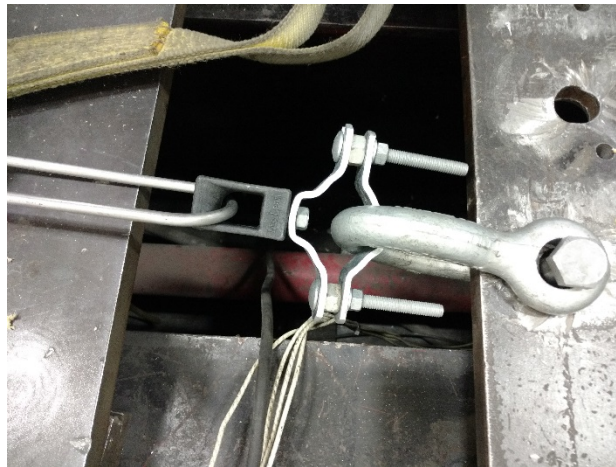

Figure 1: Tensile Test Setup
2.1.1 A sample part of J0588Z Nylon Conduit Wireholder was installed with a hook in the tensile testing machine. Figure 1 shows the setup.